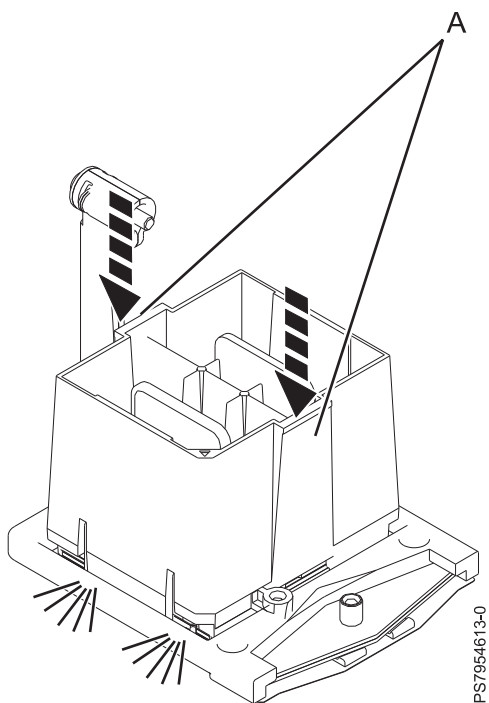

Figure 36. Locking the microprocessor into the tool
- c. With the removal tool (A) sitting on top of the microprocessor, push down on the tool to lock the microprocessor into the tool, as shown in Figure 36 on page 74.